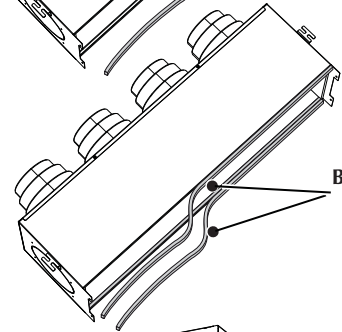

Fig.3
- Use the four screws provided to fasten the PM\_V accessory to the unit flow vent (fig.3).